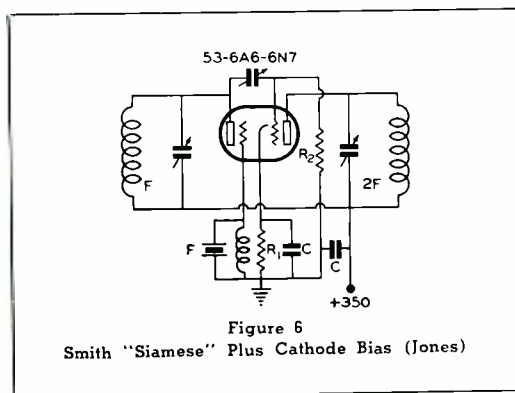

Figure 6
W. W. Smith (W6BCX) first discovered the tremendous advantages inherent in this tube as a crystal oscillator, single-ended doubler (with and without regeneration) and push-push doubler. He presented his findings in an article in the August 1934 issue of RADIO. See figure 6. He referred to it as the *Siamese* exciter. Two months later Millen showed a transmitter using a 53 exciter in *QST*.